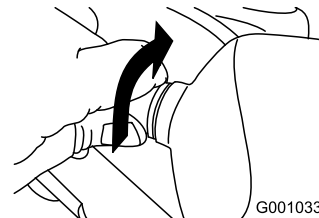

Figure 55
- Turn the base of the bulb counterclockwise until it stops (Figure 55).